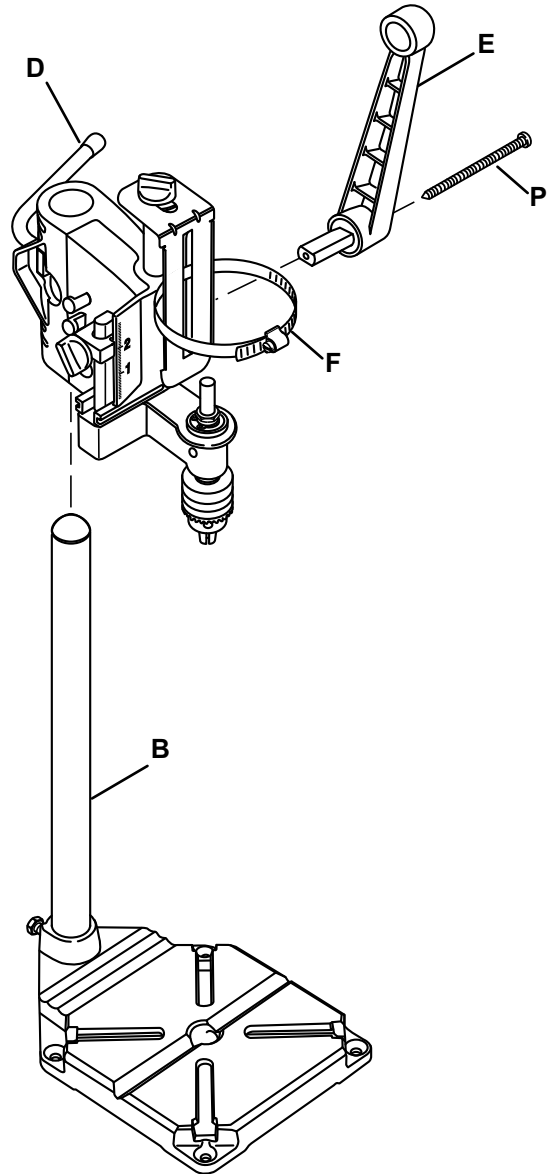

Figure 5
6. Insert quick-release clamp (F) through adjustment bracket. Position clamp behind outer two ribs and in front of middle rib of bracket. See Figure 5.
7. Align shaft on handle (E) with slot in head assembly. Install handle facing up. Secure handle with handle screw (P). See Figure 5.
8. Slide head assembly onto post (B). Secure head assembly to post by tightening adjustment handle (D).